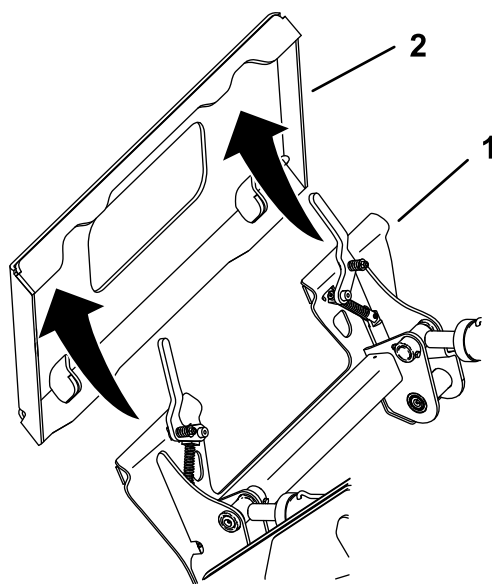

Figure 57
5. Position the mount plate into the upper lip of the attachment receiver plate (Figure 57).